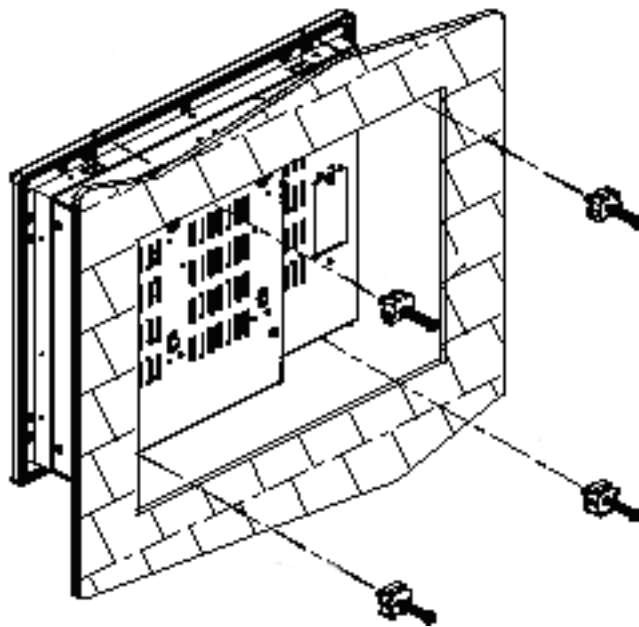

Figure 5-6: Insert the Monitor
Step 3: Slide the monitor through the hole until the metal frame is flushed against the panel (**Figure 5-6**).